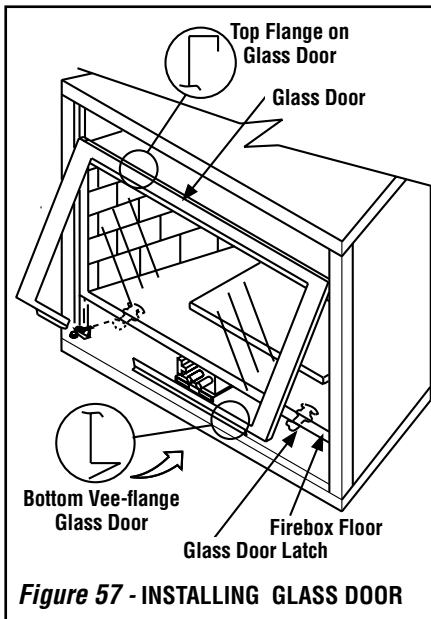

Figure 57 - INSTALLING GLASS DOOR
Removing Glass Enclosure Panels (see Figure 57)
Installing Glass Enclosure Panels (see Figure 57)
2. Position the glass enclosure panel in front of the firebox opening at a 45 degree angle and engage the top flange over the lip at the top of the firebox opening. *See Figure 57.*
3. Allow the burner to operate for at least 15 minutes while observing the flame continuously to ensure that the proper flame appearance has been achieved (see **Figure 57 or 58**). If the following conditions are present, adjust accordingly.